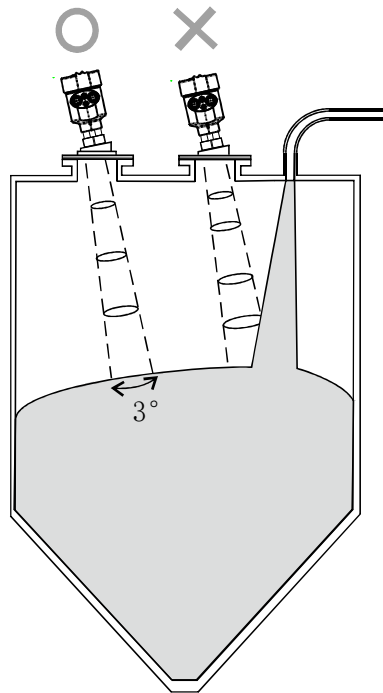

Figure 4-2 Antenna Beam Avoiding Feed Inlet
- The antenna beam shall be kept away from the feed inlet, as shown in Figure 4-2.